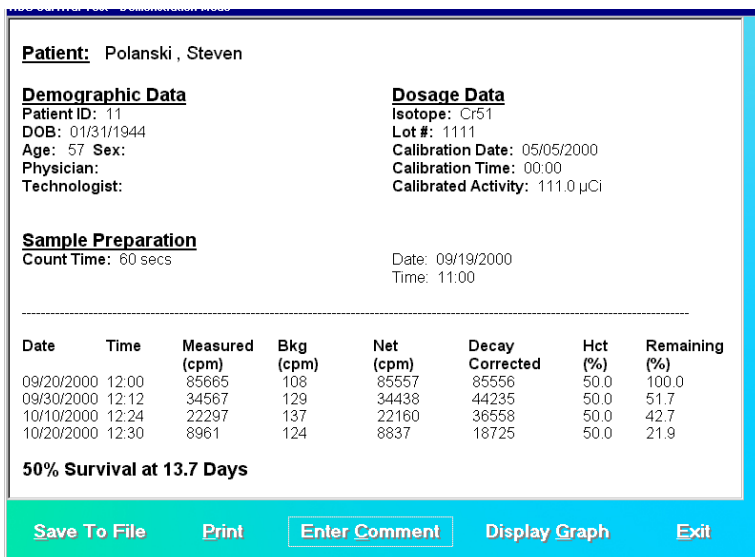

Figure 10-79
- Click on the  icon. The screen appears as in Figure 10-79, showing a typical patient report. It contains the patient's demographic data, dosage and sample information, count data and calculated results (HCT % and RBC Remaining %) for each measurement made. If **Normal Range** values have been entered in the setup, any results outside of these limits will be flagged.